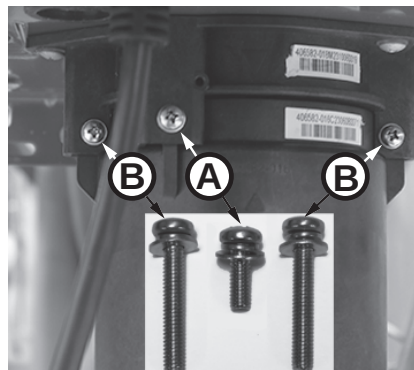

Figure 214 - Identify cartridge screws
- 6 Locate the three (3) screws securing the X3®/Bypass cartridge as shown in Figure 214. Remove the (A) M4-12mm screw and the two (B) M4-25mm screws from cartridge. Place screws aside in a safe place for reinstallation.